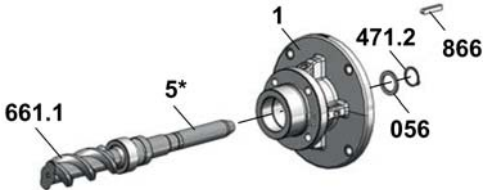

Fig. 11
6. Slide the main screw with mounted rotary seal ring into the flange cover, see Fig. 11.
Mount the feather key **866**, see Fig. 11.